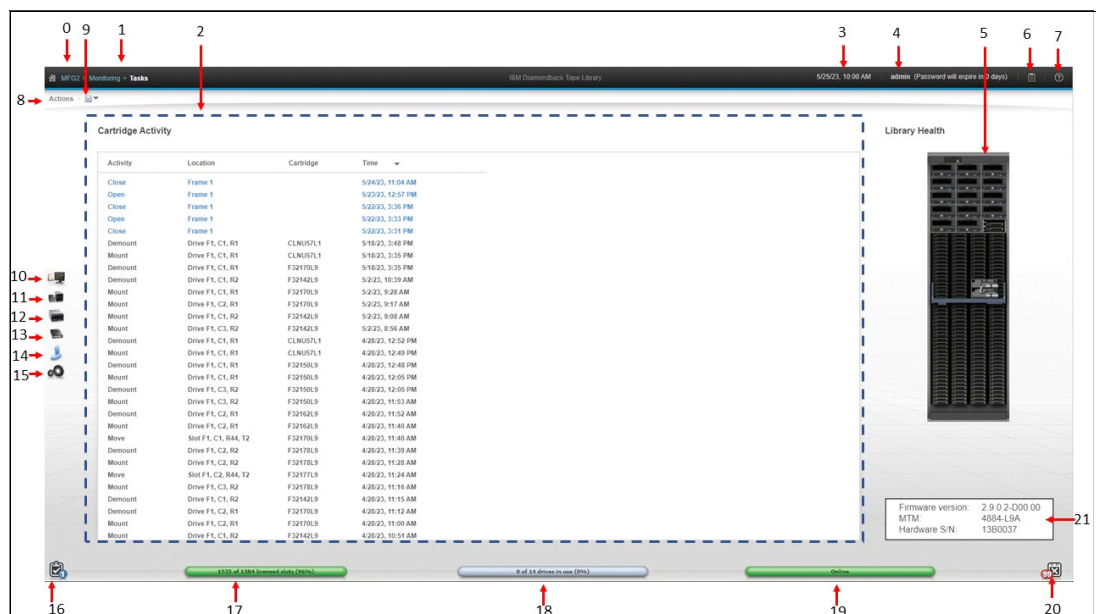

Figure 5-5 System summary window
After you log in to the system, the system summary window is shown. (see: Figure 5-5).
For more information about the Management Interface (MI) and the available functions, use the question mark (?) icon or **Help**, which is number 6 in Figure 5-5.
Table 5-1 lists the fields that are shown in the window. The numbers in Figure 5-5 on page 56 refer to the numbers that are shown in Table 5-1.